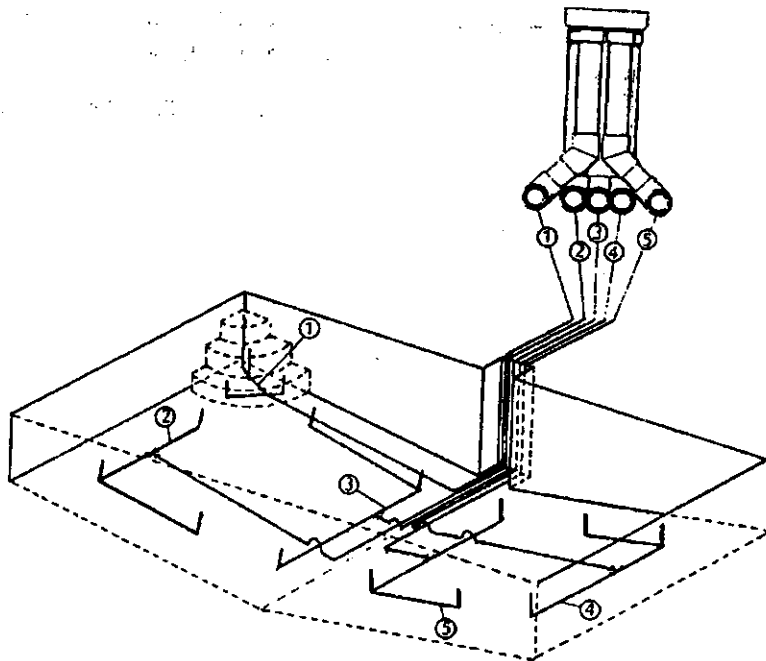

Figure 9-2
6. Plumb all feed lines from the skimmer niche back to the A&A water valve so that all the lines, including the suction lines, are laying flat in the trench. Plan the placement of these lines in the trench so that they are laying in the proper order in relation to the firing order of the water valve (see Figure 9-2).